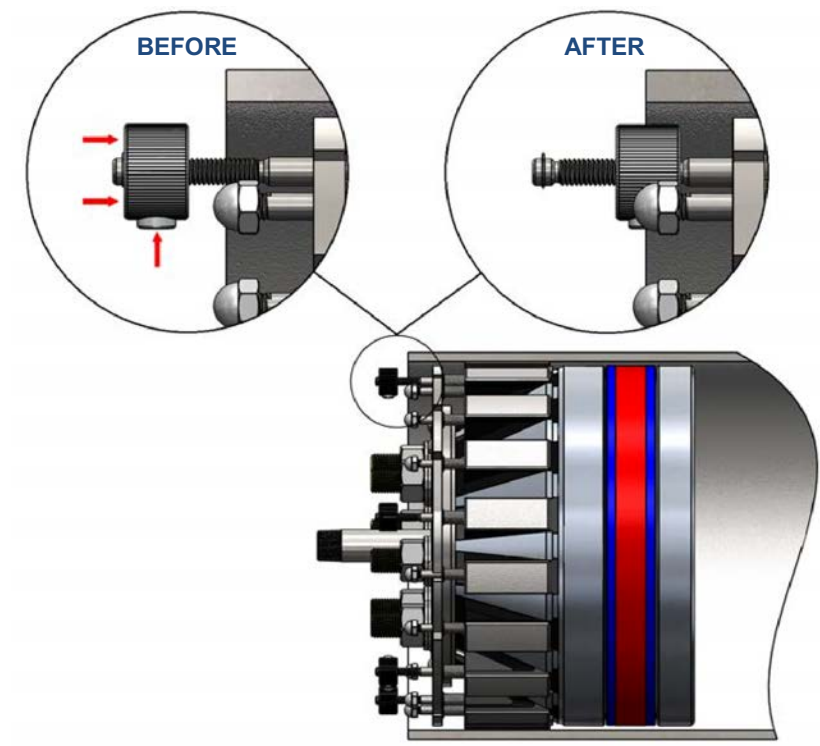

Figure 18: Repositioning Speed Nut
- 10.3 Before loosening the **Compression Hex Nuts(19)**, all **Speed Nut(1)** must first be positioned all the way to the end of the stud’s thread as shown in Figure 18 – AFTER.
- 10.4 Turn the **Speed Nut(1)** clockwise until it reaches the end of the thread, away from the retainer ring. For faster repositioning, press the button of the **Speed Nut(1)** and slide it toward the end of the thread, away from the retainer ring, see Figure 18 – BEFORE. Once it is at the end of the thread, make sure that threads are interlocked by turning the **Speed Nut(1)** clockwise until it is finger tight.
- All **Speed Nut(1)** must be in the “AFTER” position shown in Figure 18 before loosening the **Compression Hex Nuts(19)**.